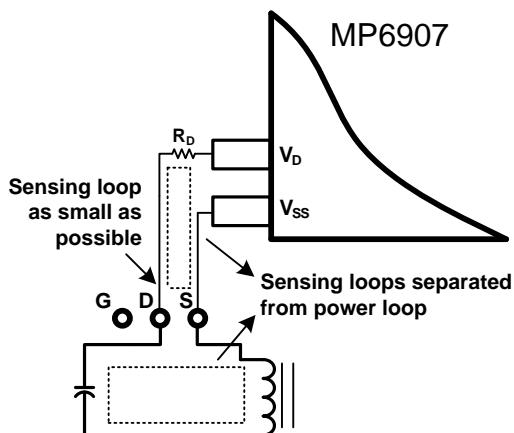
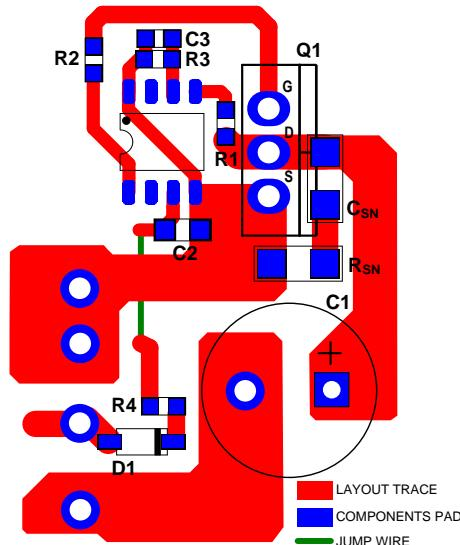
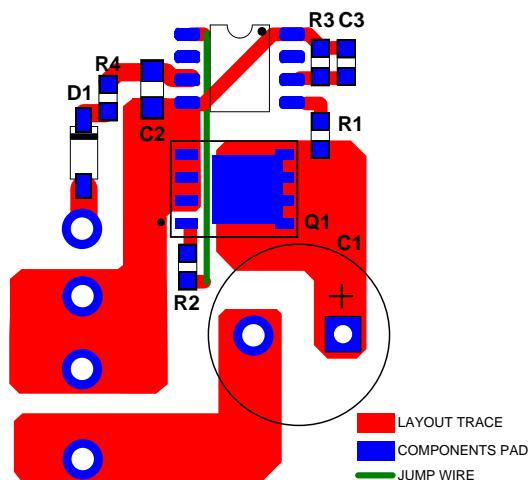

Figure 17: Voltage Sensing for  $V_D/V_{SS}$  on MP6907
Figure 18: Layout Example with TO220 Package SR FET
Figure 19: Layout Example with PowerPAK/SO8 Package SR FET
Efficient PCB layout is critical for stable operation. For best results, refer to Figure 17, Figure 18, and Figure 19, and follow the guidelines below.
- 4) Keep the IC out of the power loop to prevent the sensing loop and power loop from interrupting each other (see Figure 17).
Figure 18 shows a layout example of a single layer with a through-hole transformer and a TO220 package SR FET.  $R_{SN}$  and  $C_{SN}$  are the RC snubber network for the SR FET.
Figure 19 shows another layout example of a single layer with a PowerPAK/SO8 package SR FET, which also has a minimized sensing loop and power loop to prevent the loops from interfering with one another.